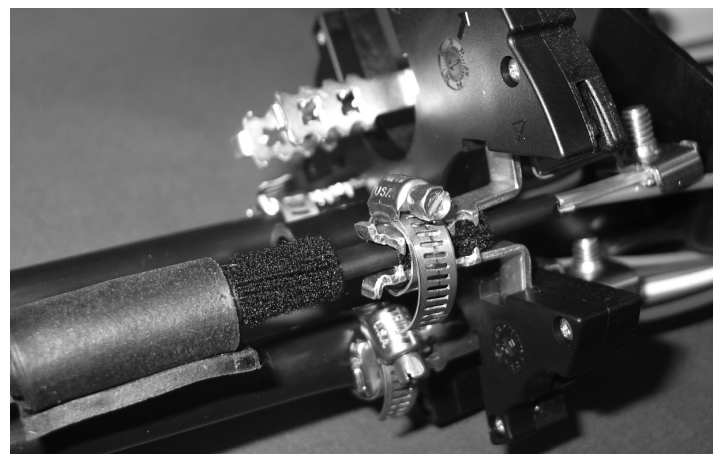

Figure 16
17. Place the cable between the cable retention bracket and secure the cable with the enclosed hose clamp. (Fig. 16)